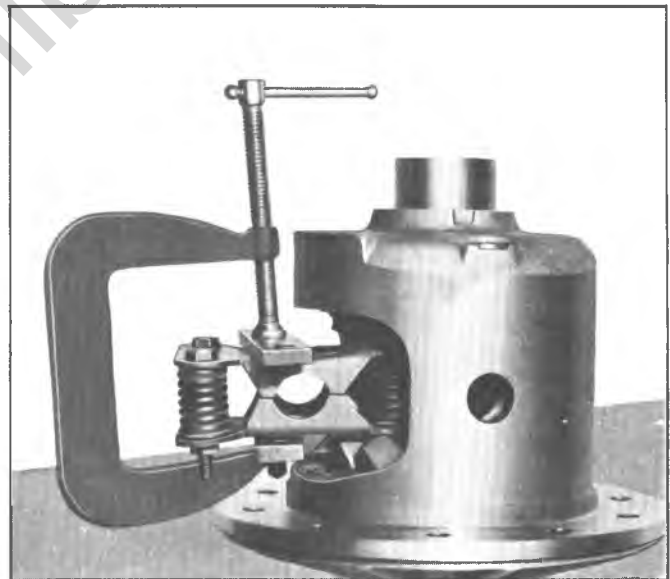

Fig. 6D— C-Clamp and Bar Stock Installed for Spring Removal
4. After installing the retaining bolts continue to drive spring retainer from the case until enough of the retainer is exposed to permit installation of bar stock and "C" clamp as shown in Figure 6D. Center the bar stock over the axle shaft hole in the spring retainer, then compress "C" clamp sufficiently to permit withdrawal of spring pack.